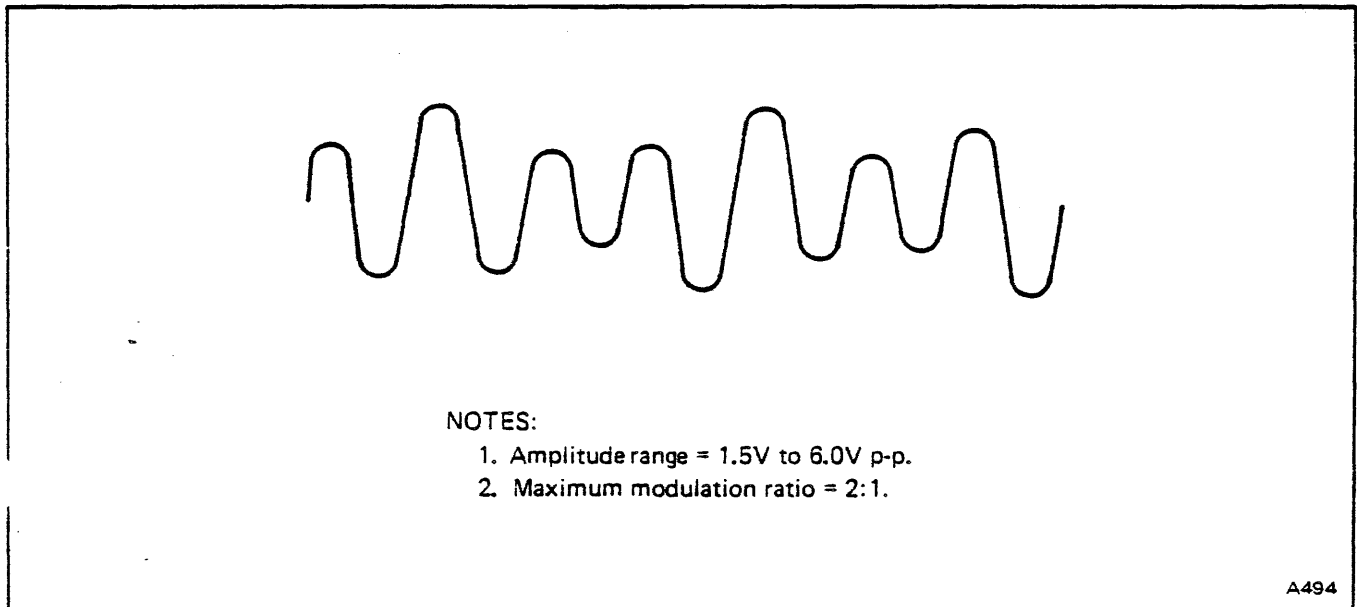

Figure 6-4A. Magnetic Pickup Output
- i. Carefully adjust magnetic pickup to obtain output waveform shown in Figure 6-4A.